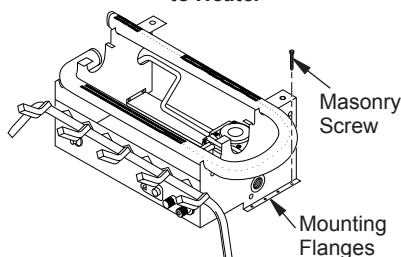

Figure 12 - Attaching Base Assembly to Fireplace Floor
7. Mark screw locations through holes in mounting flanges (see Figure 12). If installing in a brick-bottom fireplace, mark screw locations in mortar joint of bricks.
10. Attach base assembly to fireplace floor using two masonry screws (in hardware package) (see Figure 12, page 13).